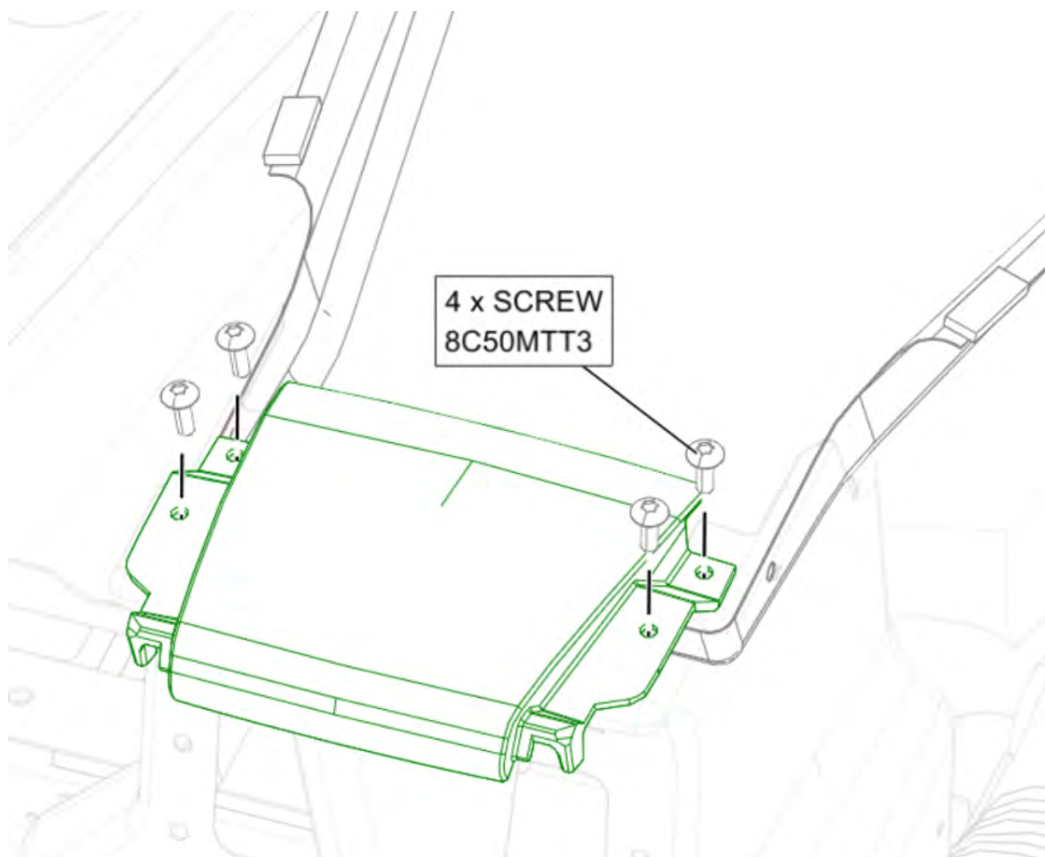

FIGURE 8-11
6. Install Handhold using four screws as shown in Figure 8-11, torque screws to 13 in-lbs.